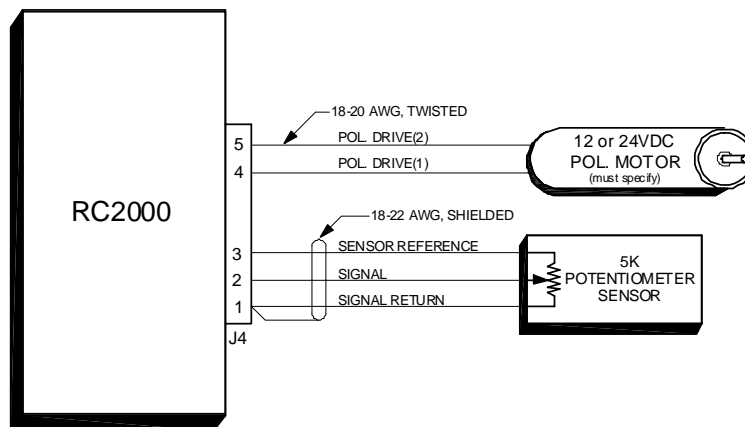

Figure 3.4 Polarization Control
1. Connect the polarization/sensor assembly as shown in figure 3.4. Note that shielded cable is required for the sensor and that the shield MUST be connected to the GROUND terminal (1) at the back of the controller and MUST NOT be connected to anything at the antenna. Research Concepts, Inc. can supply cable for installation. RCI part number CBL-2_16-3_22A contains 2 16 gauge conductors for carrying the motor drive current and a shielded triple with a drain wire in a single UV resistant-direct burial jacket. Contact RCI for details.
2. The CONFIG mode item *Rotating Feed Present?* must be set to YES (1). Activate CONFIG mode and use the SCROLL DOWN key to bring up the *Rotating Feed Present?* item and key in a 1 followed by the ENTER key. (If the *Rotating Feed Present?* item is not accessible in CONFIG mode, the Expert Access Flag has been reset. If this occurs, set the Expert Access Flag (1) as described in section 2.5.)